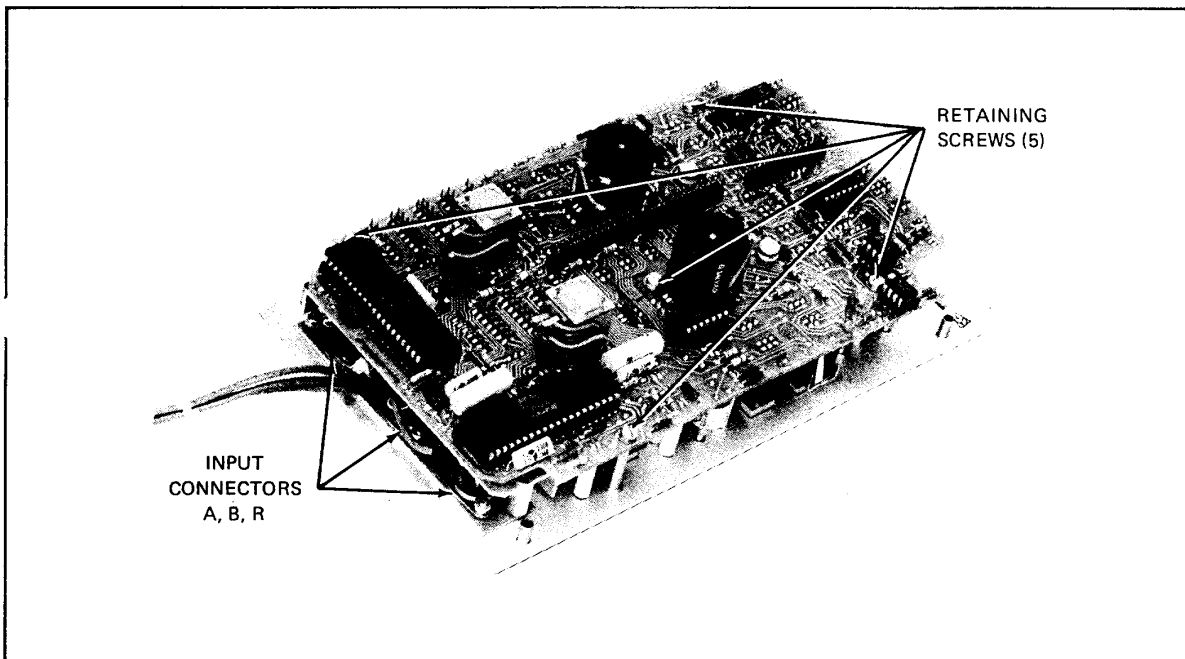

Figure 7-143. Front Panel Assembly With A1 PCB Retaining Screws and Input Connectors Indexed
9. Remove the 5 retaining screws and flatwashers from the A1 PCB (Figure 7-143). To prevent binding, all five screws should be loosened 2 to 3 turns before any one screw is removed.
6. Inspect input connectors (Figure 7-143) for broken or chafed wires.